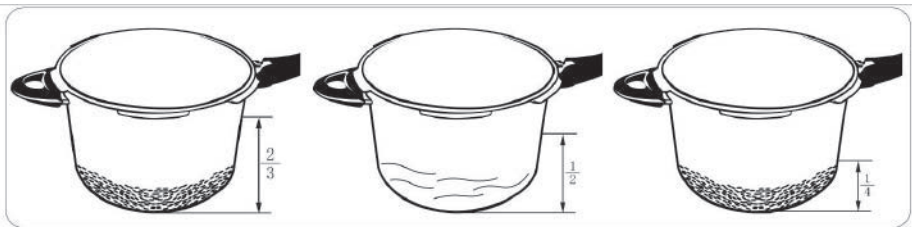

Figure 2
Maximum Volume: **NEVER** fill the pressure cooker more than 2/3 of the cooker's capacity with liquid and food. See Figure 2.
- Fill only halfway of the cooker's capacity when cooking foods that will either expand in size and/or produce foam as they cook (such as rice, legumes, broths, or dried vegetable). See Figure 2.
Minimum Volume: The cooker must always contain at least 0.26Qt (1/4 liter, 2 cups) of liquid for cooking. See Figure 2.